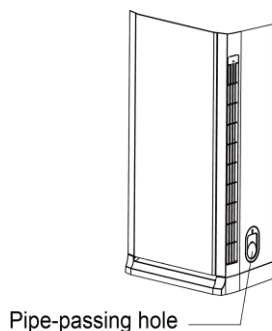
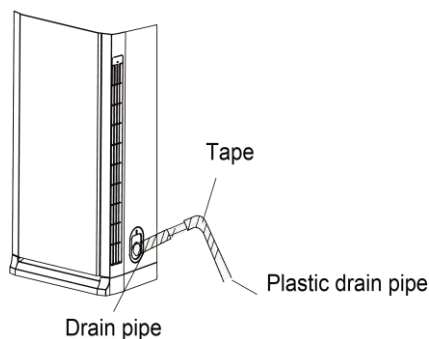

Fig. 4.4
Fig. 4.5
- (4). When performing piping and wiring work on the left, right and rear side, please adopt the attached accessories. (See Fig. 4.4 and Fig.4.5)